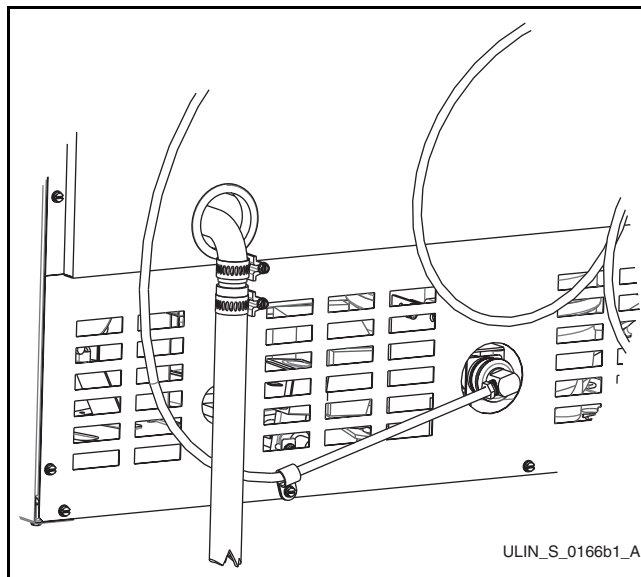

Figure 71
4. Slide two hose clamps onto the drain connection on the rear of the appliance. Insert the barbed fitting half-way into this connection. On the other end of the barbed fitting attach the 5/8" braided tubing. Slide a clamp onto each side of the barbed fitting as shown (**Figure 71 & 70**).
6. Connect the water supply fitting by screwing the brass garden hose fitting to the water valve in the rear of the unit. Tighten this fitting with a pliers. Do not use Teflon tape or joint compound on the fitting. The rubber washer provides an adequate seal. Other materials could cause blockage of the valve. The copper water line should now be clamped to the rear of the unit to prevent rotation when sliding in. Remove the clamp from the unit, slide the tube into it and reattach using the 1/4" nut driver as shown (**Figure 71 and 70**).